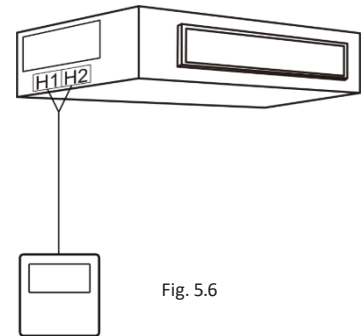

Fig. 5.6
- 1) Fig. 5.6 shows the installation of the wired controller.